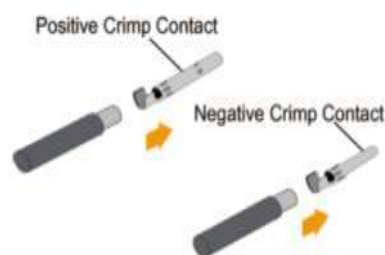

Fig. 4-38 Assemble the cable ends
- 2) Assemble the cable ends with the crimping pliers (Fig. 4-38).